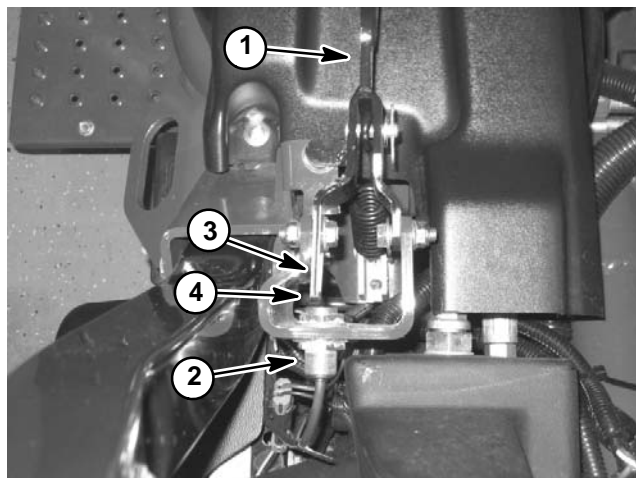

Figure 29
The parking brake switch is a normally open proximity switch that mounts to the frame bracket used to attach the parking brake lever assembly (Fig. 29). The sensing plate for the brake switch is a tab on the parking brake lever assembly. The Toro Electronic Controller (TEC) monitors the operation of the parking brake switch.
1. When the parking brake is not applied, the gap between the parking brake switch and the tab on the parking brake lever should be **0.125" (3.2 mm)** (Fig. 29).